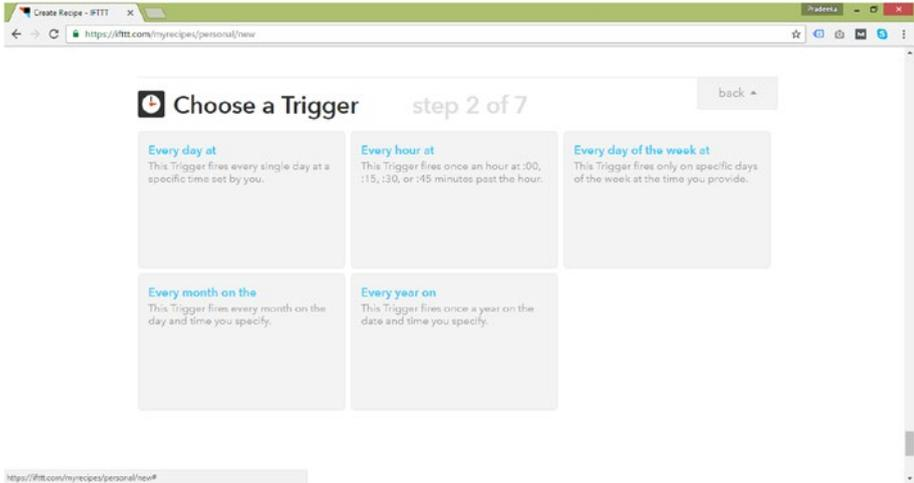

Figure 8-13. The Choose a Trigger page
5. Click the **Every Hour At** option, as shown in Figure 8-13.